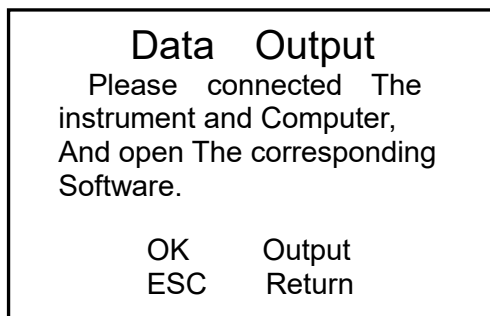

Figure 3.9 Data Transmission
8. Press the instrument's OK button (as shown in Figure 3.9)